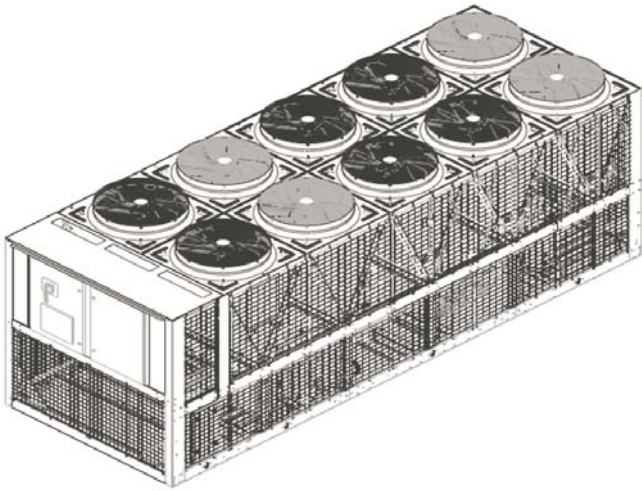

FIG. 2 – FULL UNIT WIRE PANELS
**WIRE PANELS** – UV stabilized black polyvinyl chloride coated, heavy gauge, welded wire mesh guards mounted on the exterior of the full unit. Protects condenser coil faces and prevents unauthorized access to refrigerant components (compressors, pipes, evaporator, etc.), yet provides free air flow. This can cut installation cost by eliminating the need for separate, expensive fencing. See Figure 2.